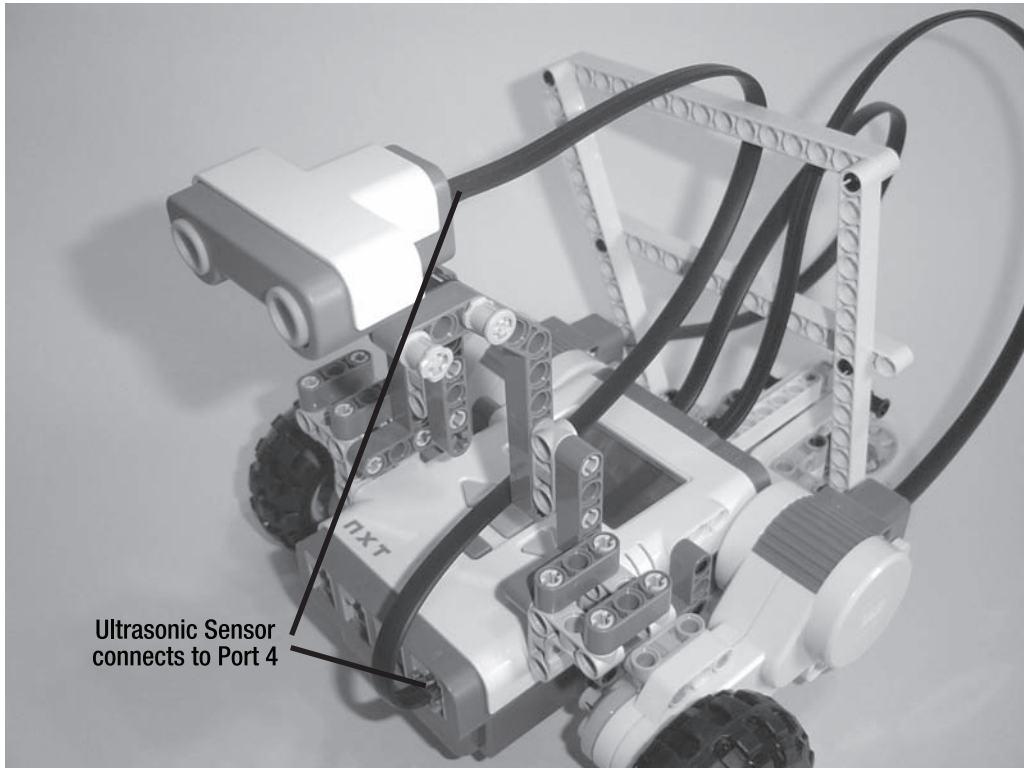

Figure 3-40. *The Ultrasonic Sensor connects to Port 4.*
1. Connect a cable from the Ultrasonic Sensor to Port 4 (see Figure 3-40).